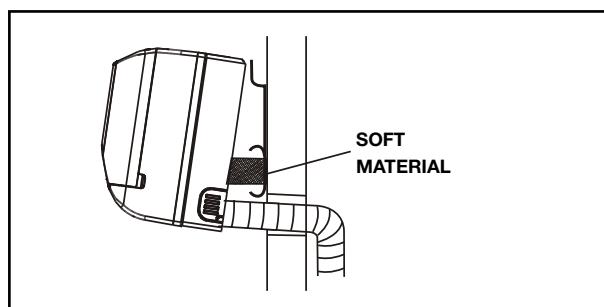

fig.7
3. Insert a spacer made of soft material between the unit and the wall, so that the machine remains partially raised and laying of the pipe is thus made easier (fig. 7). This spacer will be removed when the operation has been completed.